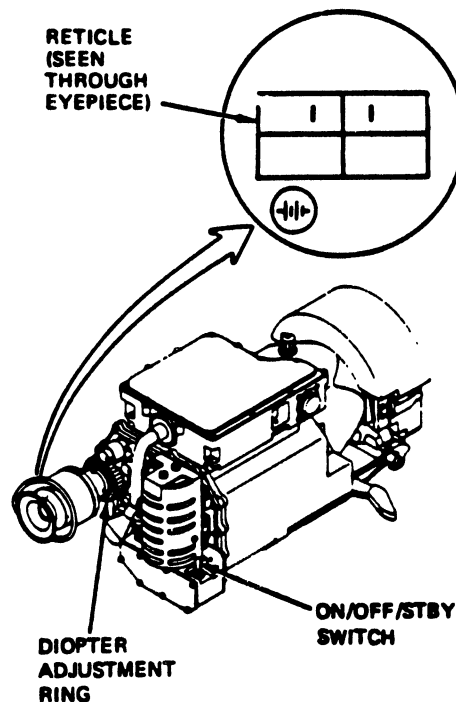

Fig 3-18. Diopter adjustment ring/ON/OFF/STBY switch.
Step 4. Set the ON/OFF/STBY switch to STBY on the night sight (fig 3-18).